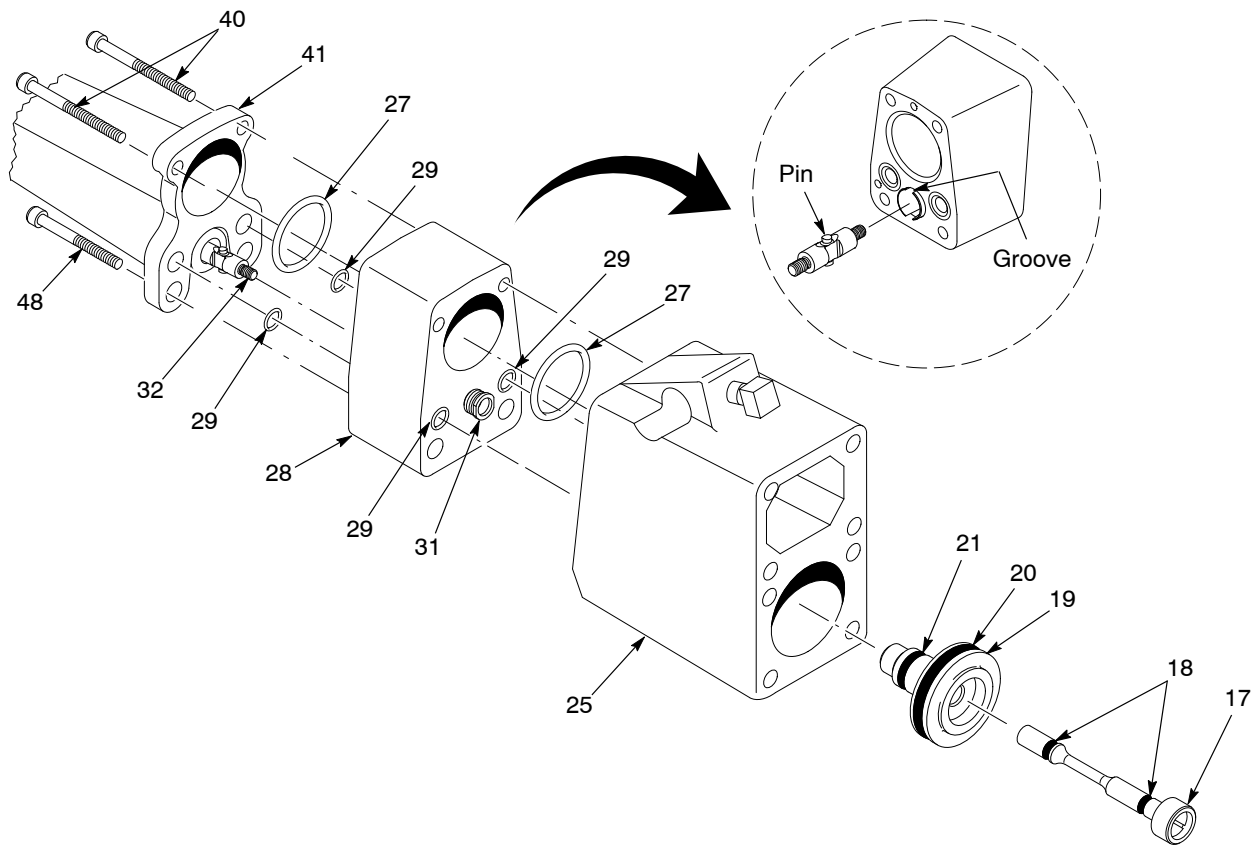

Figure 7-4 Air Piston and Connecting Rod Replacement
1. See Figure 7-4. Insert a flat-blade screwdriver into the end of the piston block body (25) to loosen the connecting rod (17) from the packing cartridge. The connecting rod will remain in the piston block body.
2. Remove the four socket-head screws (40 and 48) with a  $\frac{5}{32}$ -in. hex wrench to remove the extension (41) and spacer block (28).
3. Remove the extension and spacer block from the piston block body. Do not lose the four face-seal O-rings (29) or the two large face-seal O-rings (27).
1. See Figure 7-4. Using the  $\frac{5}{32}$ -in. hex wrench, push the connecting rod (17) out of the piston block body. Inspect and replace worn or damaged connecting rod O-rings (18).
2. Push the air piston (19) out of the piston block body. Inspect the air piston and replace if necessary. Generously lubricate the inside bore of the piston body with MagnaLube G or an equivalent PTFE-based lubricant.
1. See Figure 7-4. Make sure the four face-seal O-rings (29) are correctly installed. Lubricate the O-rings with O-ring grease.
2. Make sure the two large face-seal O-rings (27) are correctly installed. Apply dielectric grease to these O-rings.
3. Grasp the puller link (32) and pull it until the ball tip is fully retracted.
4. Generously lubricate the pins on the top and bottom of the puller link and the grooves on the end of the retainer bushing (31) with MagnaLube G or an equivalent PTFE-based lubricant.
See Figure 7-4.
3. Grasp the adapter link (32) and pull it until the ball tip is fully retracted.